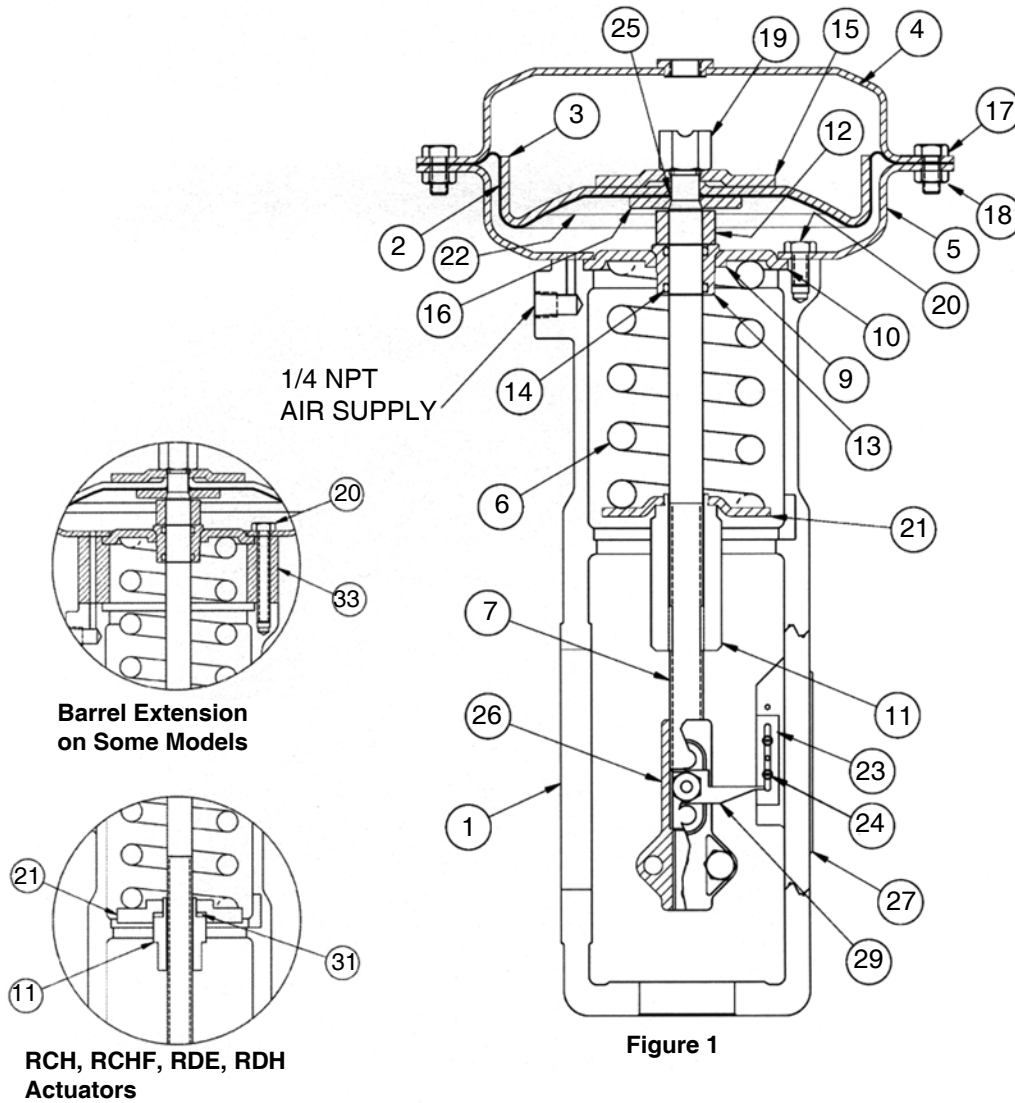

Figure 1
1. Restrain the spring barrel (1) by strapping it down to an assembly bench or by gripping the lower end lightly in a bench vise.
2. Place the packing box/packing box flange subassembly into the recess in the upper face of the spring barrel (1) with the packing box (13) orientated as shown in Figure 1.
3. Place the lower case gasket (1) on the upper face of the spring barrel (1).
1. Lubricate the "O" rings (14) and the packing box grease reservoir liberally with an appropriate grease (Houghton "O" lubricant or equivalent). Install the two packing box "O" rings (14) in the packing box (13).
2. Install the diaphragm subassembly by passing the spring stem (7) down through the packing box (13).
4. Snake the spring (6) down over the spring stem (7) and properly seat it in relationship to the guide diameter of the packing box flange (9).
5. Slip the spring adjuster button (21) oriented as shown in Figure 1 over the spring stem (7) and pilot it down on to the spring (6). With actuators with #3 spring barrel (units have an opening in the side of the barrel), place the spring adjuster thrust bearing (31) in the recess in the spring adjuster button (21).
6. Screw the spring adjuster (11) down on the spring stem (7) until it engages the bore of the spring adjuster button (21).
7. Turn the resulting subassembly case end up and align the bolt circle of the diaphragm (2) with the flange bolt holes of the lower diaphragm case (5).
8. Place the upper diaphragm case (4) over the diaphragm (2) taking care to align the flange bolt holes.
9. Install the diaphragm case cap screws (17) and the case cap screw nuts (18). Tighten the cap screws (17) to 22-26 lb-ft (30-35 Nm).